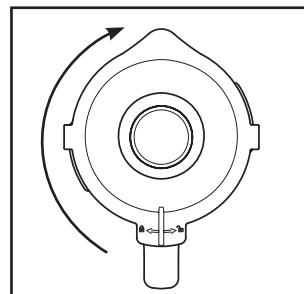

Fig. 2
- 4) Press the lid ② firmly down onto the blender ③. Close the lid ② by turning it clockwise to position ⑧ until it audibly engages (see Fig. 2). Ensure that the pouring spout on the blender ③ is closed. The motor cannot start until the lid ② is fitted flush.